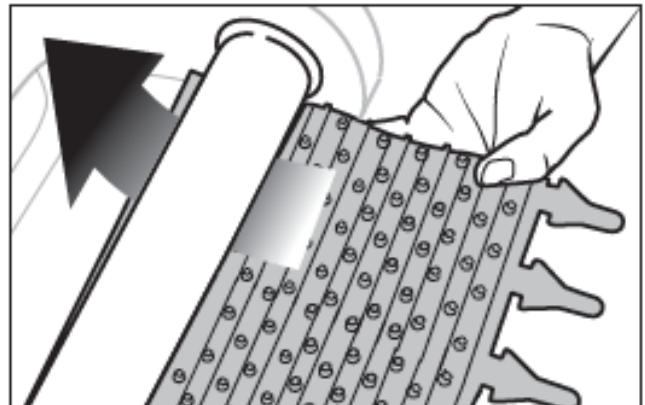

Figure 17. Install the New Brush
2. To install the new brush, position the new brush on the roller with the cleaning blades facing away from the roller. (FIGURE 17)